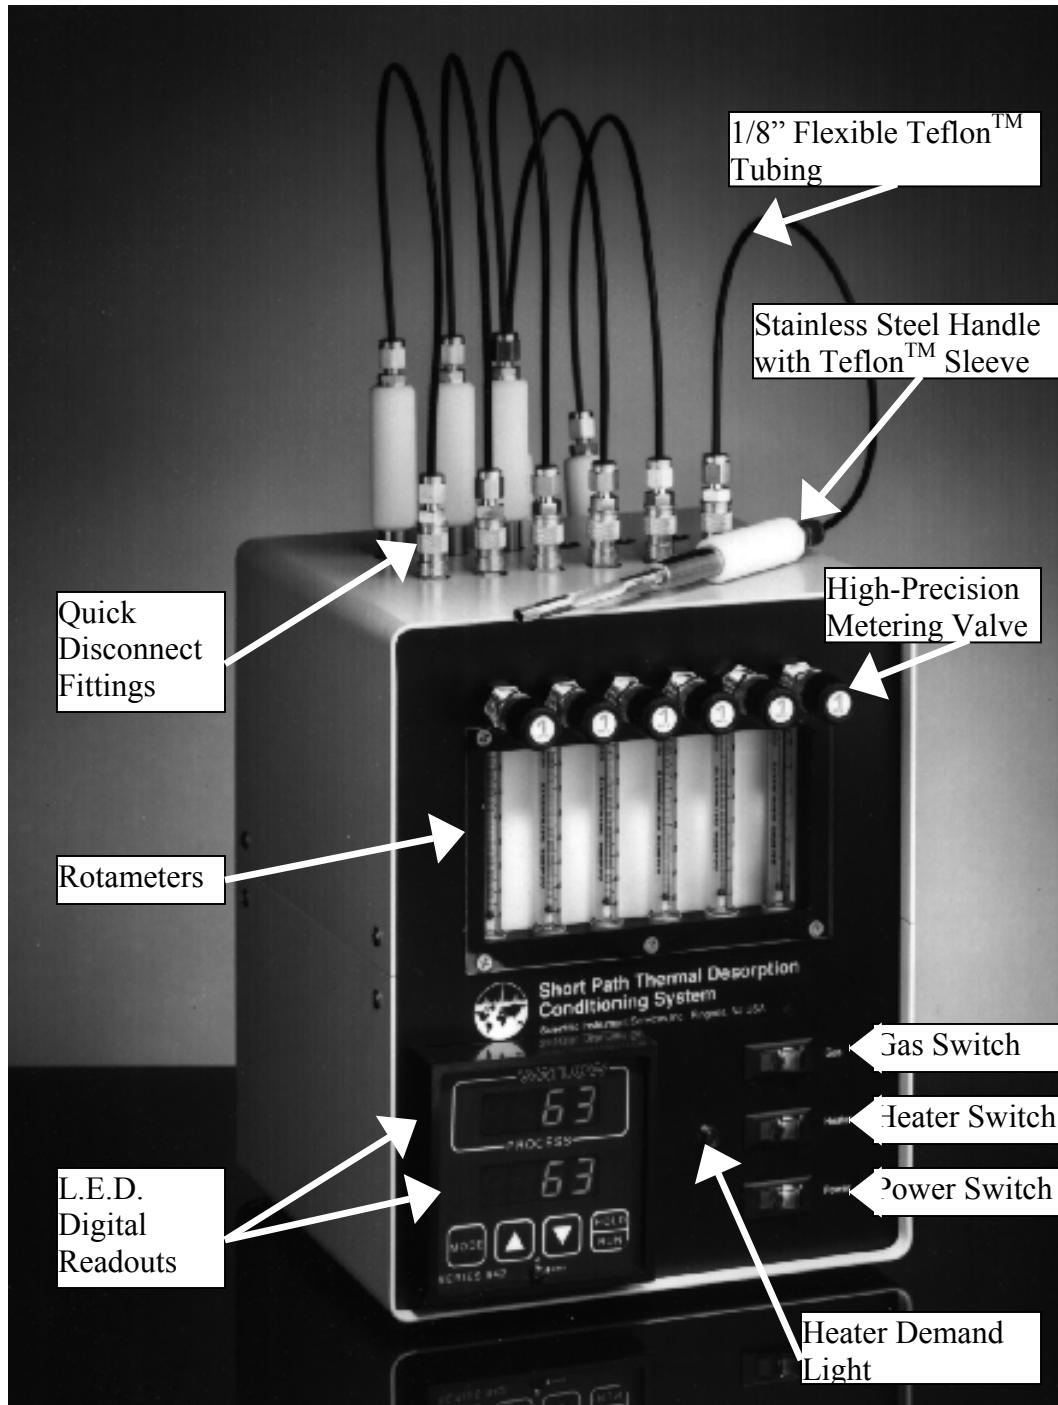

Figure 9-1 – Desorption Tube Conditioning Oven – Front View
A. Front Panel Description (Figure 9-1)